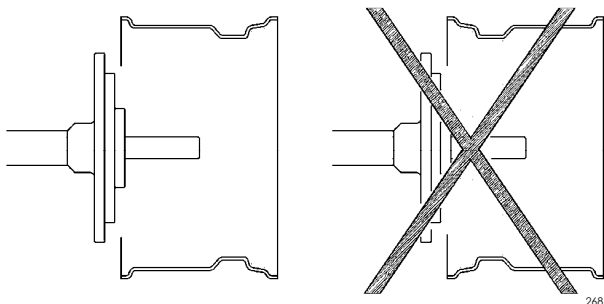

Fig.18
- D.** Lock the wheel to the chuck with the appropriate flange checking that the drop center of the rim is towards the outside of the machine (Fig.18).